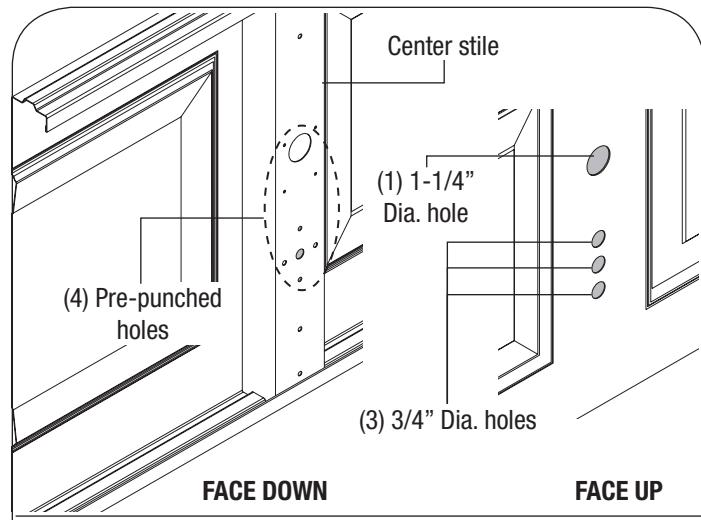

FIG. 1
**8000/8100/8200 DOORS, (SEE FIG. 1):** Place the lock section face down on (2) padded sawhorses for a single car door or (3) padded sawhorses for a double car door. Locate the (4) hole pattern in the center stile of the lock section. Use the (4) holes as a template to drill (4)  $1/8$ " holes through the section. Flip the section over, face up. With the section face up, enlarge the (3) bottom holes to  $3/4$ " diameter and the top hole to  $1-1/4$ " diameter, pay close attention not to drill completely through section into center stile.